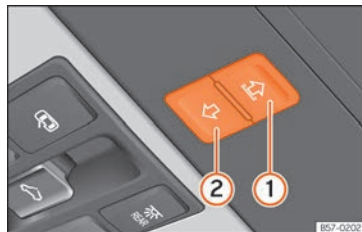

Fig. 94 On the interior roof lining: sunshade blind buttons.
Buttons » Fig. 94 ① and ② have two levels. The first level opens or closes the sun blind fully or partially.
- *Sun blind*: within approximately 5 seconds of activating the roll-back function, press and hold button **»» Fig. 94**  until the blind is fully closed.